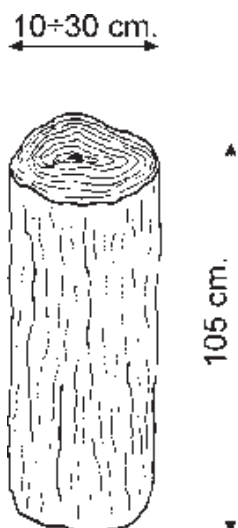

Fig.2 Maximum size of the log to be split
- Never try to split logs larger than those indicated in fig. 2. This could be dangerous and may damage the machine.